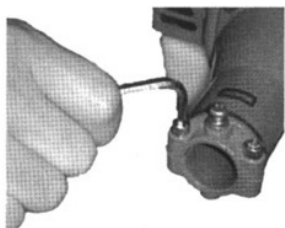

Figure 4
2. Use the 4mm allen wrench to loosen the tube clamp as shown in Figure 4.